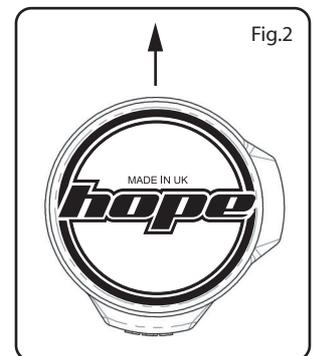

Fig.2
6. Rotate the grip so the 'Hope' logo is facing up (vertical position) to start with (Fig.2).